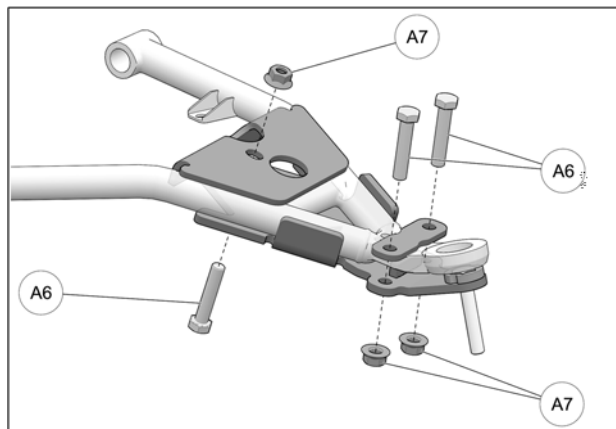

Fig. 15
- Secure the top and bottom of the bracket assembly with the provided M10x50mm bolts (**A6**) and nuts (**A7**). Tighten to 50 N•m [37 lb•ft] of torque. Refer to Fig. 15